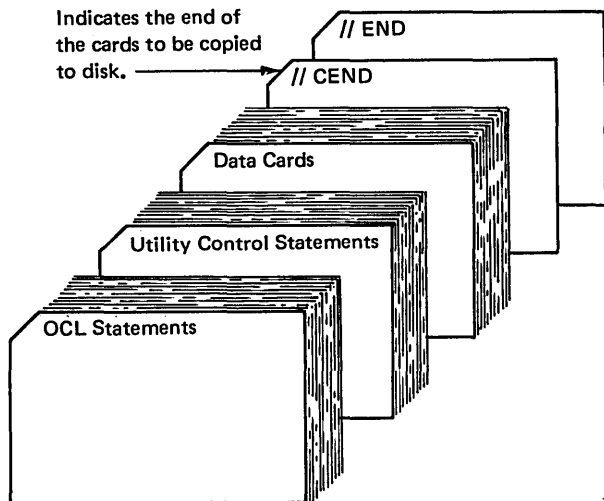
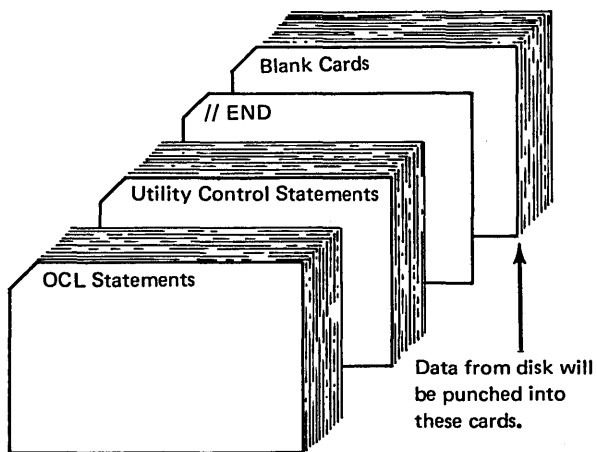

Figure 24. Order of Input for Library Maintenance Run that Copies Data from Cards to Disk.
Figure 25. Order of Input for Library Maintenance Utility Run that Copies Data from Disk to Cards
- Input to the Library Maintenance program can include data cards if data is being copied from punched cards to disk (Figure 24) or blank cards if data is being copied from disk to cards (Figure 25).